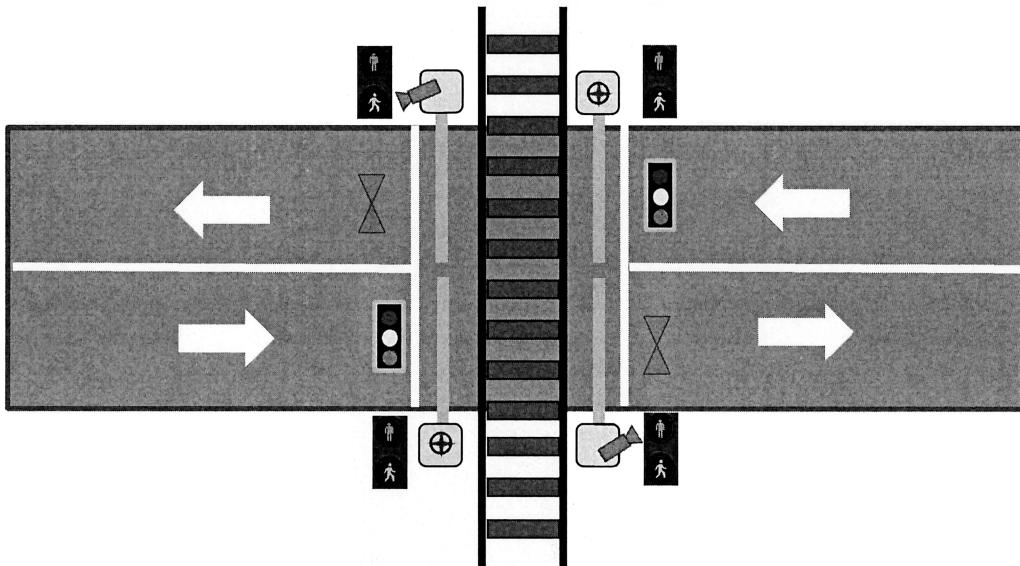

Figure 3 Road-Railway Junction
4. You are to design the control system of a road-railway junction, as shown in Figure 3.